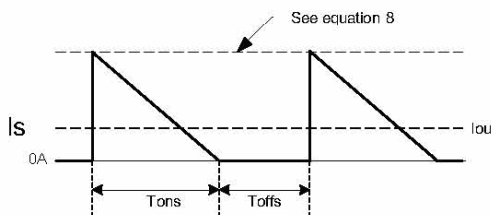

Figure 13. Secondary Current Waveform
The TLSA3706 is designed to work in constant-current (CC) mode. Figure 13 shows the secondary current waveforms.